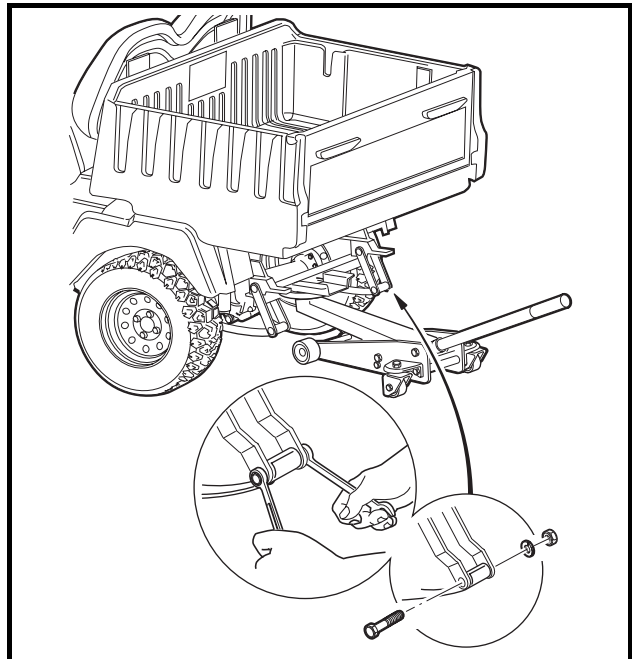

Figure 19-40 Leaf Springs and Shackles
15. Adjust the vehicle height with the floor jack to position the leaf springs for mounting in the shackles. Install the mounting bolts, and lock nuts (Figure 19-40, Page 19-15).